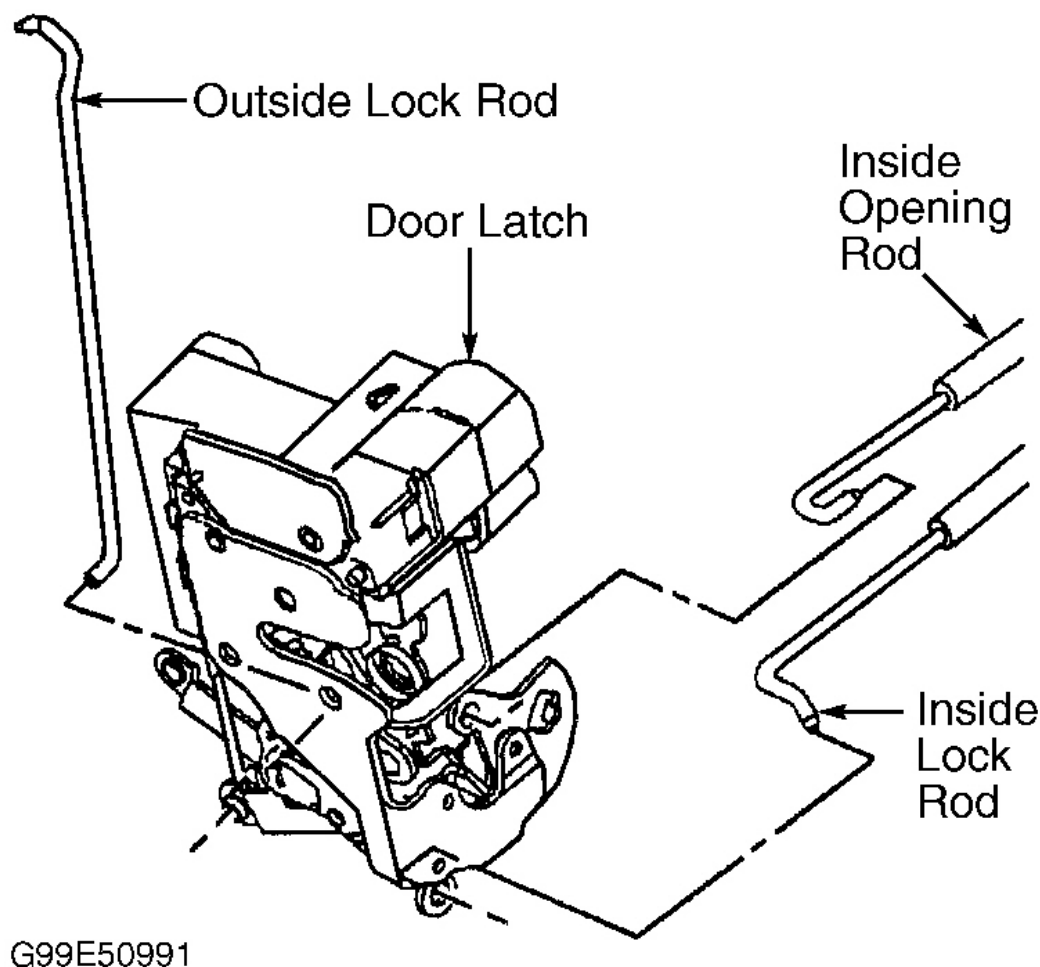

Fig. 2: Identifying Lock Rod Positions
3. Remove inside door handle and disconnect lock and opening rods. Unclip rods from anti-rattle retainer. Remove door latch with inside rods and lock cylinder rod attached. Remove lock rods if necessary. Note position of each rod. See **Fig. 2** .